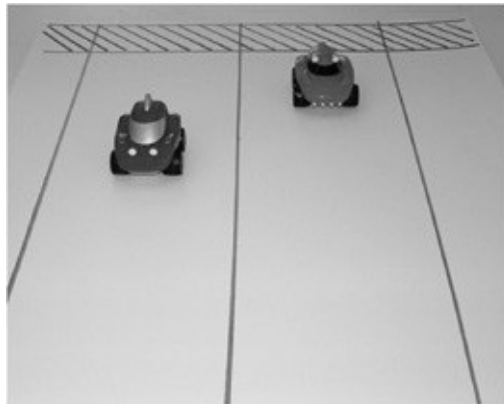

Figure 3-1 When will the faster car overtake the slower one?
3. Line up the two cars in the same direction on a level floor heading in the same direction, as shown in Figure 3-1.